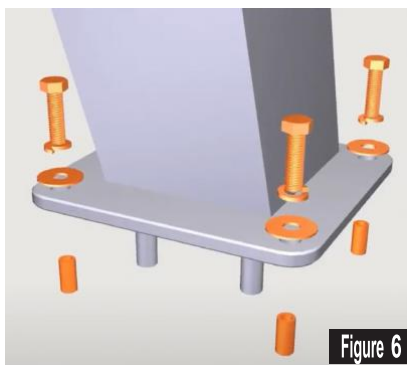

Figure 6
- Set the bolt plate in the center of parallel to the playing surface. See Figure 6.
- Remove the hardware from the flat end of the Extension Arm (Part B) & discard tubes. See Figure 6.